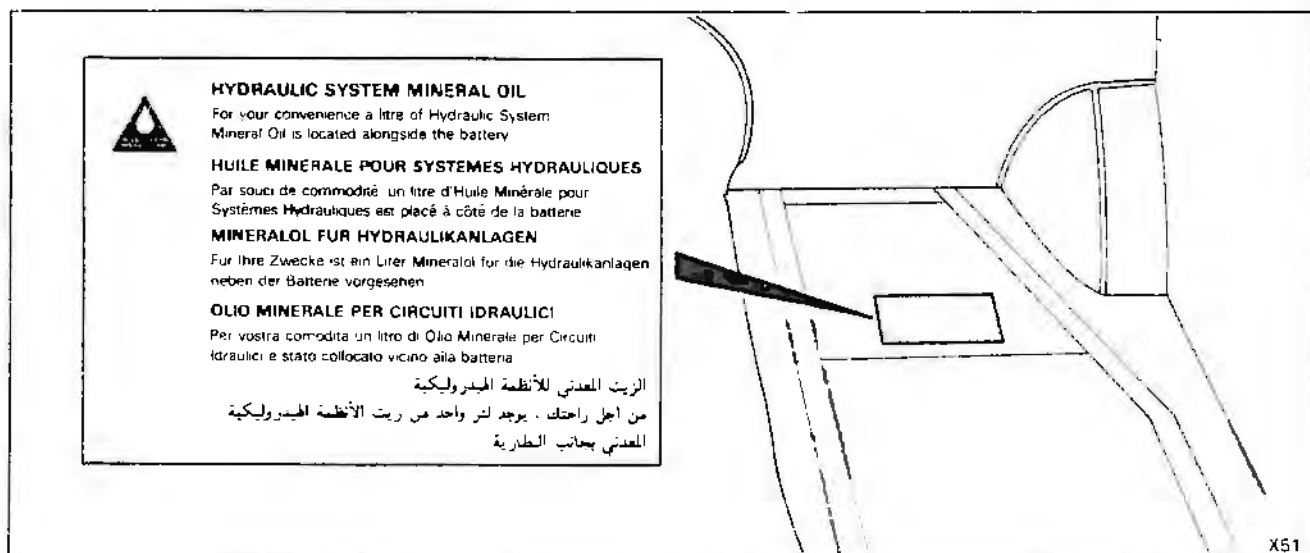

Fig. 2
1. The 1 litre can of Hydraulic System Mineral Oil should be located adjacent to the battery and held in position by the rubber strap and folded metal clip (see fig. 1). The label advising of the location of this can should be situated on the battery box lid (see fig. 2). The label advising of the topping-up procedure should be attached to the container of Hydraulic System Mineral Oil at the time of delivery to the customer (see fig. 1).